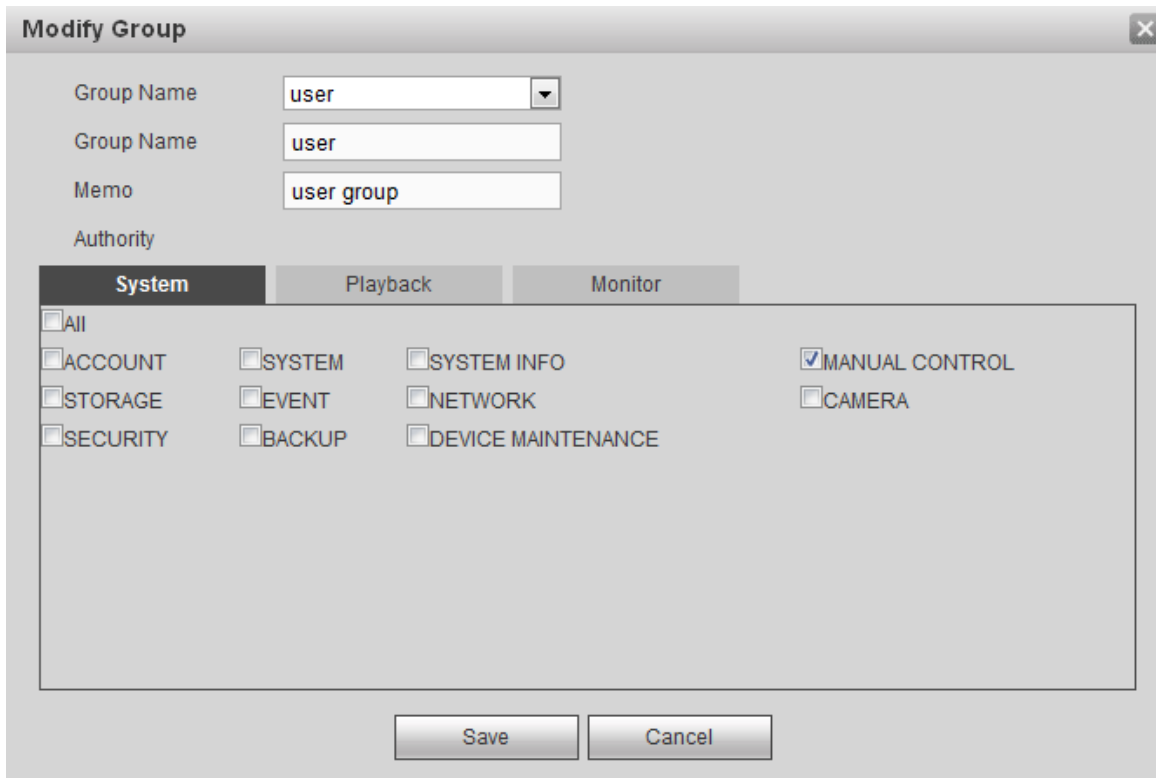

Figure 5-160
Step 1 Select a group and then click . See Figure 5-160.